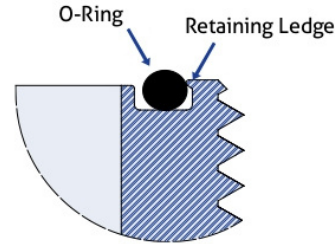

Figure 11: View of Groove Type B
- Type B: The Type B groove has a retaining ledge (half dovetail) that improves O-ring retention. The Type B style is more commonly found and is a design improvement over the Type A. (Figure 11)